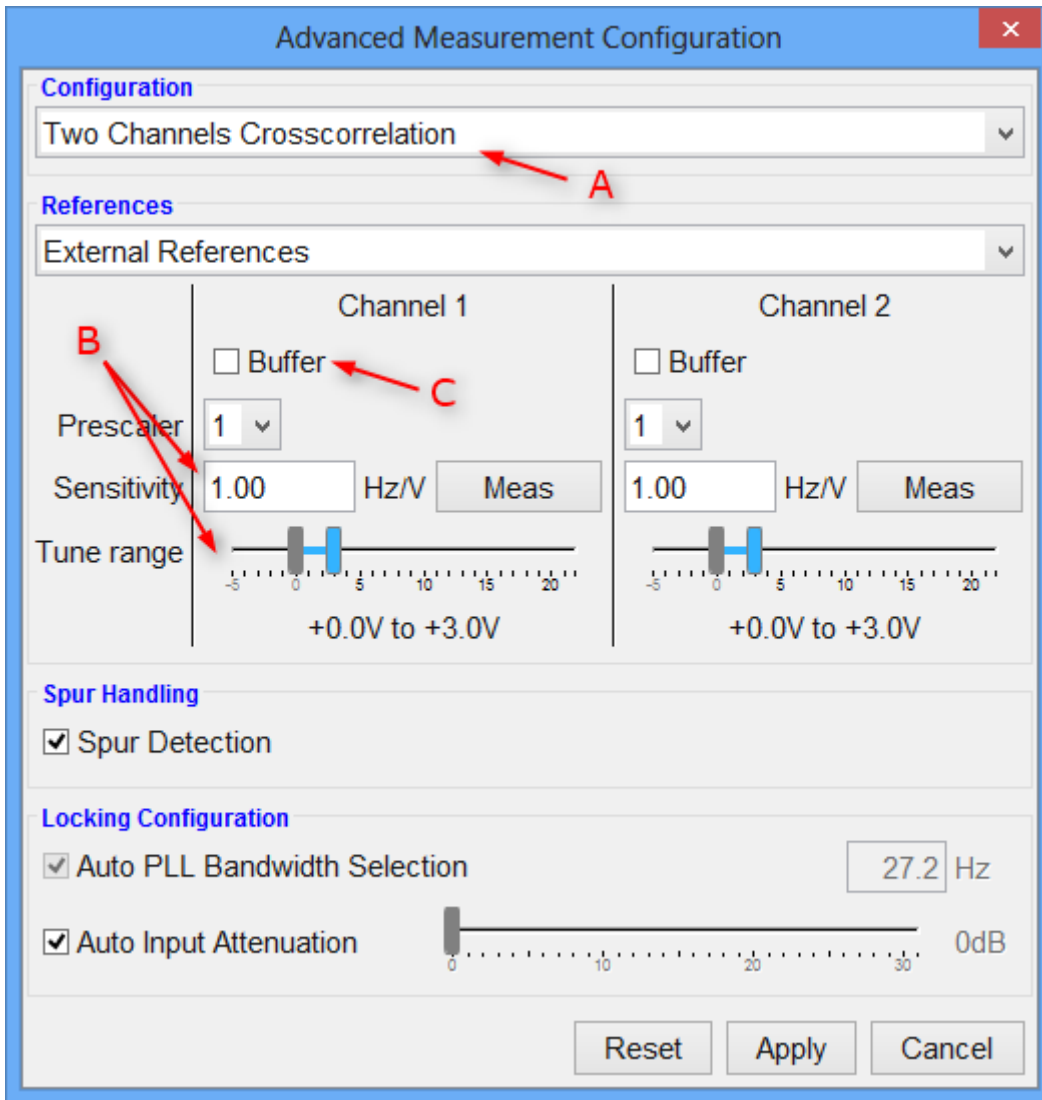

**Figure 10 Phase noise measurement completed. Noise floor (grey shade) is clearly below measured trace (red).**
**After clicking on the Measure button, the phase noise measurement is started. A couple of calibration steps are automatically performed and phase noise data is acquired from SERIES 7000. In the Measurement tab of the plot window the red trace shows the intermediate result as shown in Figure 10.**
**Figure 10 shows a screenshot of the GUI after a completed measurement. Below the actual (red) measurement trace, a gray polygon (shade trace) is visible. This polygon indicates the measurement floor for the current measurement. With increasing number of correlation, this noise floor will decrease. If the measurement trace at a given offset is above the noise floor the measured trace has reached a steady-state value at the same offset. Increasing number of correlation will only “smooth” the curve and remove trace noise, but will not further improve the phase noise value.**